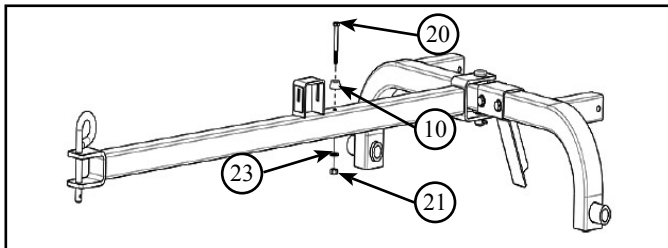

Figure 3.7 - Tow Bar/Bed Bumper
4. Insert bolt (20) through bumper (10) and tow bar. *Refer to Figure 3.7*
5. Install washer (23) and tighten lock nut (21), do NOT over-tighten. *Refer to Figure 3.7*